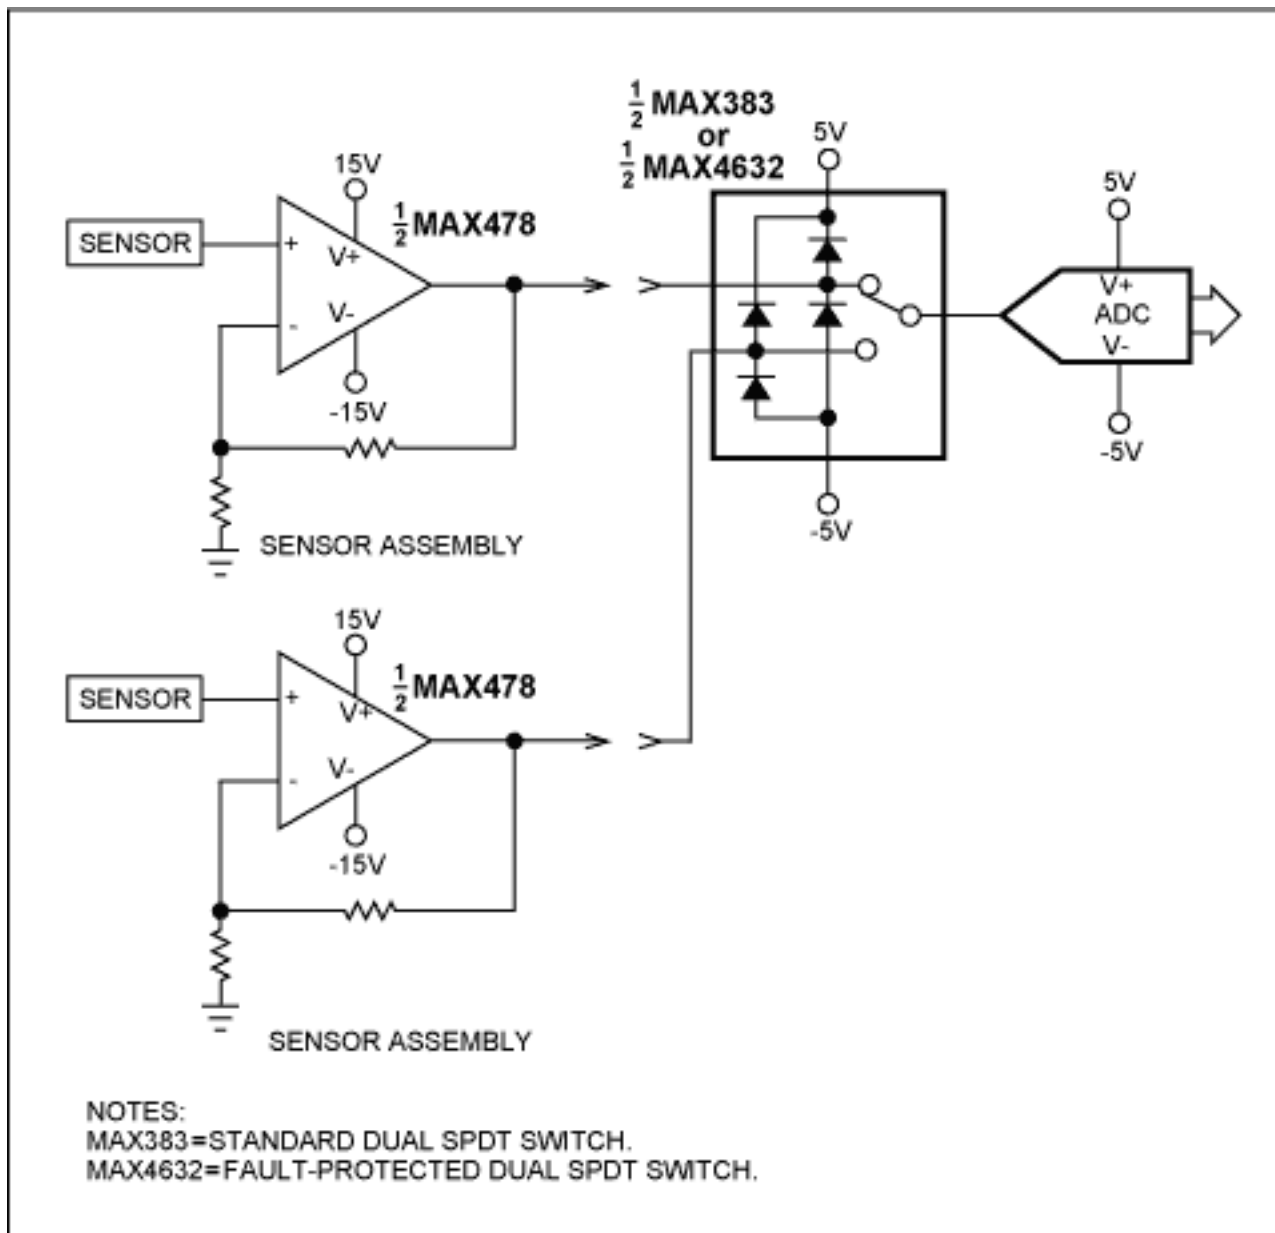

Figure 5. When several supplies power two assemblies, power-supply sequencing problems can cause fault voltages.
When the power supplies are off with input voltages present, the architecture in **Figure 5** provides the same fault protection. In this case, the +15V and -15V supplies go to 0V.
When two or more supplies power a system, sequencing them in the wrong order can cause fault voltages to appear at multiplexer and switch inputs, as well as other components. In Figure 5, a sensor assembly connects to another assembly that includes an SPDT switch and an ADC. If, for example, the 15V and -15V supplies come up at different times, the op amp's output saturates at the rail that comes up first, and a fault occurs even if ±5V power is present at the SPDT switch. A fault condition also exists at the switch if the ±15V supplies power up simultaneously when the ±5V supplies are off.
You must take care to ensure that the circuitry downstream from the specific switch undergoing a fault can handle the current that flows through the switch under this fault condition. For the circuit of Figure 5, this current is not an issue because of the relatively high input impedance of the ADC. In circuits for which the switch drives a device with low input impedance, the current during a fault can be quite high. The voltage at the switch is a diode drop above the supply voltage, and the on-resistance of the switch essentially determines the current that this voltage creates. However, when an op amp drives a protection resistor and switch, the current during a fault usually can not cause damage, because the output-current capability of most op amps is relatively limited. In fact, even without a protection resistor, the protection diodes within the switch should, in most cases, limit the voltage from the op amp to a diode drop outside the supply voltages that power the switch. Under these conditions, however, if the op amp were housed in an SC-70 package, power dissipation could become a consideration. Most of these same concerns about excessive current apply to the multiplexer circuits if the multiplexer drives a low-impedance device instead of an instrumentation amplifier.
**Figure 6** shows the same circuit as Figure 5 but for a situation that does not require switching. Protection is necessary only if the op amp can source enough current to damage the ADC's protection diodes. It may be tempting to use only a resistor to limit the current into the ADC's protection diodes, because a resistor can limit the current into the ADC sufficiently to prevent damage to the diodes. However, the addition of the resistor will likely increase the time to charge the ADC's sample capacitor too much, resulting in erroneous readings.